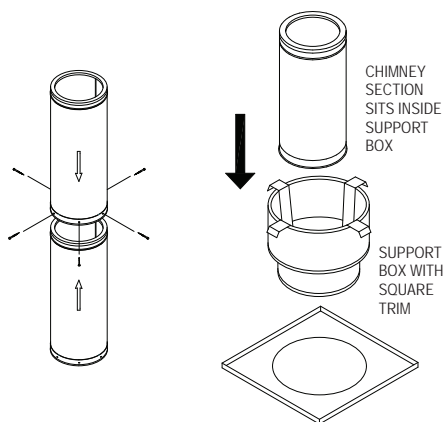

Figure 9
8. Assemble Chimney Sections: Lower the female end of the first Chimney Section in the Support Box (**Fig 9**). Sheet metal screws are not required between the first Chimney Section and the Support Box. For each additional Chimney Section use the (6) Sheet metal screws provided to make a secure connection between the chimney sections (**Fig 9**). Do not penetrate the inner liner of the chimney.